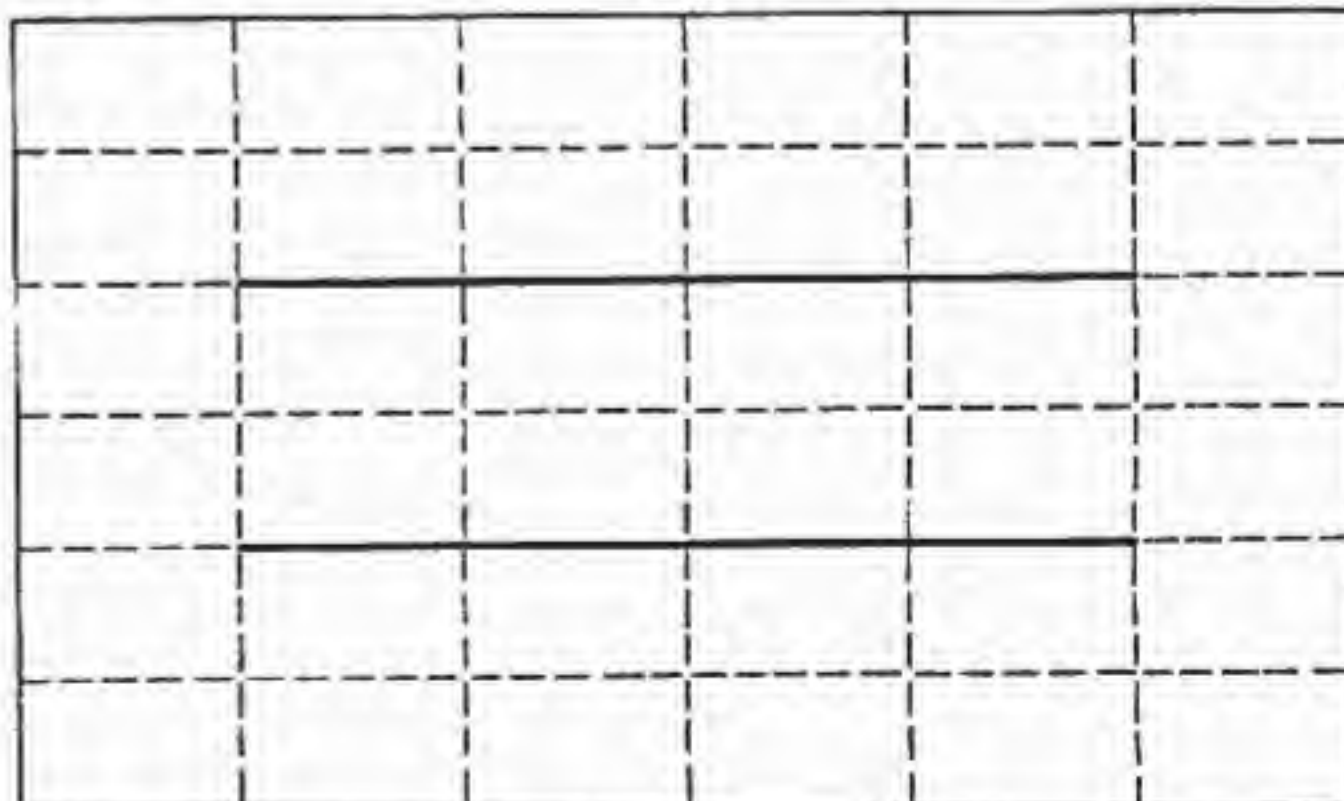

Figure 2
8. **MAP FOLDING** (Figures 2 - 4) - for a starter, get a map or a piece of practice paper, some glue or transparent tape and a razor blade. Now we're ready to start: